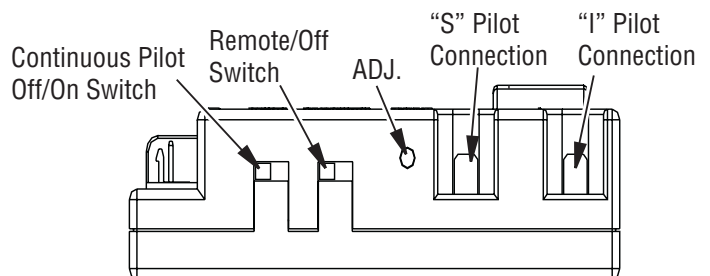

Figure 26 - Gas Module Right Side
1. There is a switch located on the right side of the module that reads CONTINUOUS PILOT ON/OFF. This switch selects the pilot's mode of operation (Figure 26).